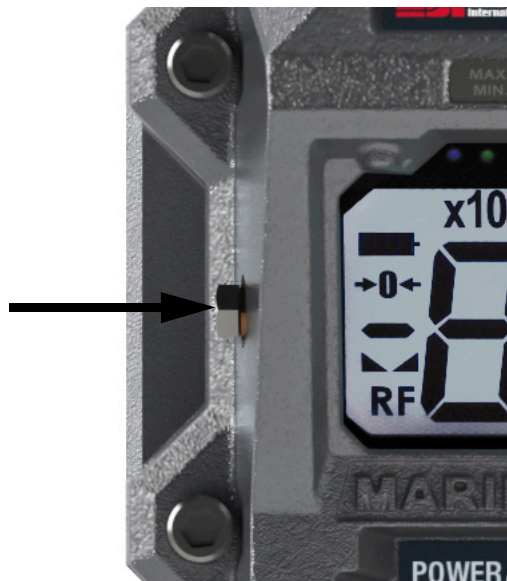

Figure 5-1. Calibration Switch Seal Screw
2. Using a small screwdriver, press the Cal switch located behind the hex seal screw (Figure 5-1).  $\bar{L}RL$  displays.